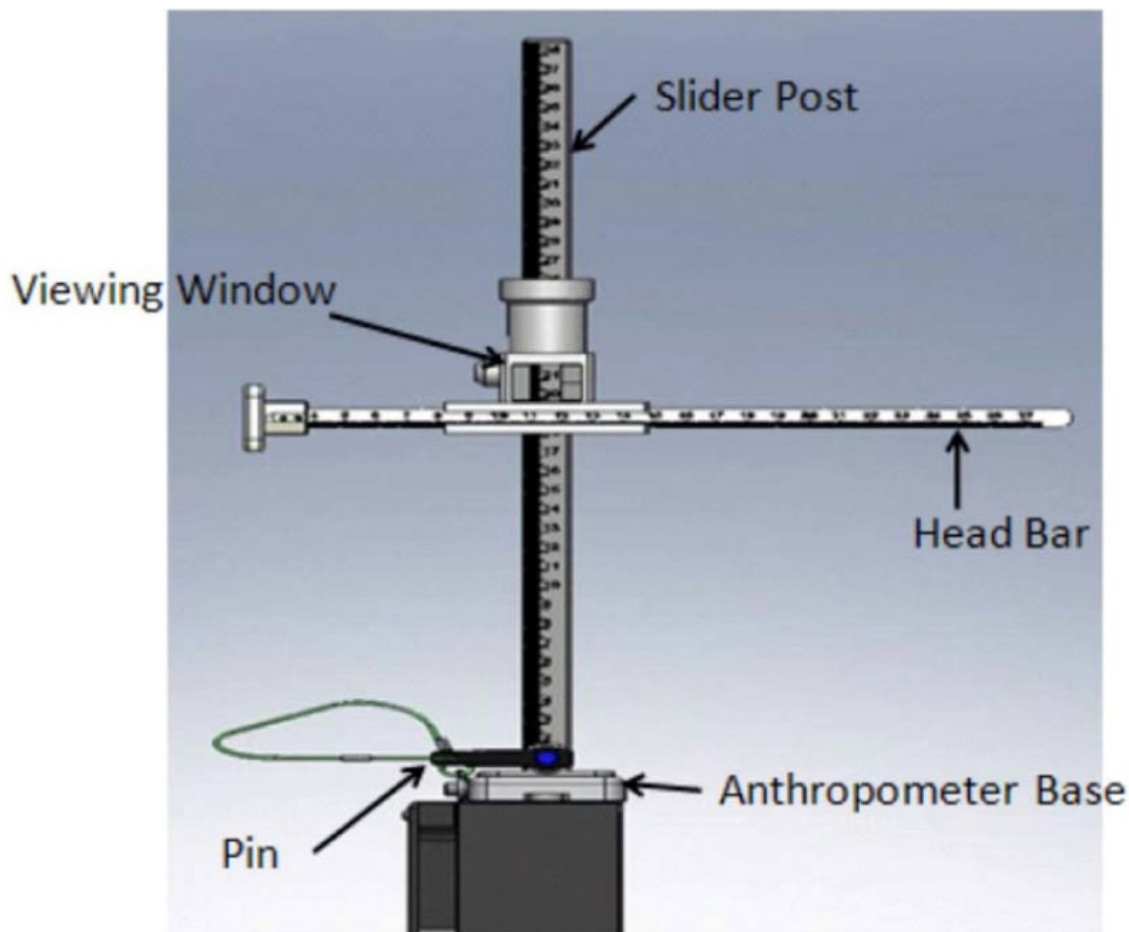

Figure 9. Head Bar Connected to Slider Post
- 5.6 Retrieve Head Bar from temporary stow location and insert into slot on Slider Post, ensuring that numbers on the Head Bar and slot on the Slider Post are facing the D2Xs Camera. Refer to Figure 9.